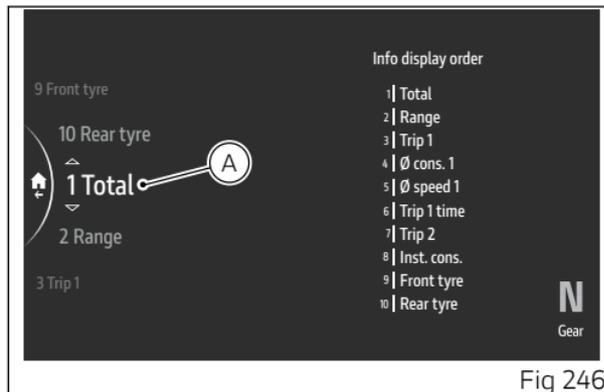

Fig 246
- Two arrows (A, Fig 246), are displayed above and below the position number indicating that it can be changed from 1 to 10 (in this example “3”) using the corresponding joystick positions ▲ ▼.